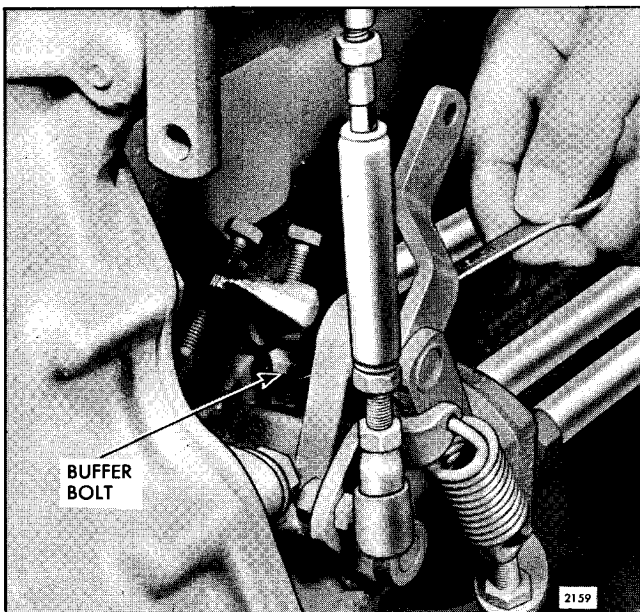

Fig. 8 - Adjusting Buffer Bolt
1. Loosen buffer bolt lock nut and, with the engine operating at idle speed, screw buffer bolt down, see Fig. 8, until the buffer bolt just touches